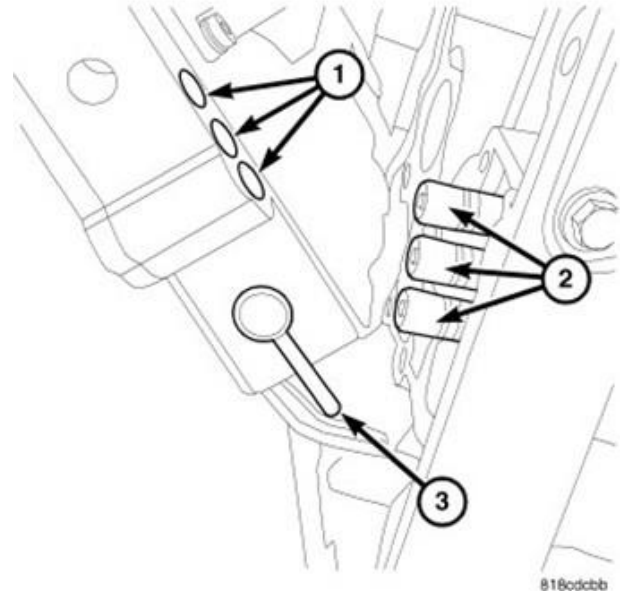

Figure 15 – Valve Body
NOTE: It may be necessary to use needle nose pliers or similar tool to push the oil transfer tubes (2) toward the transmission releasing them from the valve body (1) during valve body removal (Figure 15).
NOTE: For reassembly, pay attention to alignment of manual valve pin (3) in the range selector rooster comb (Figure 15).
25. Carefully remove the valve body (1) being careful to not damage the valve body gasket on the back side of the valve body (Figure 15).